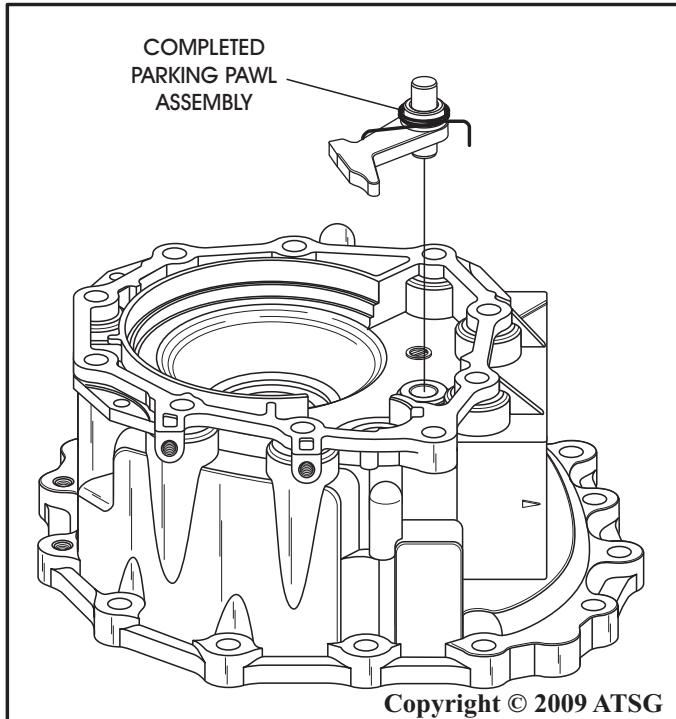

Figure 152
7. Install the pre-assembled parking pawl, spring and pivot pin into the 4WD adapter housing, as shown in Figure 152, and lock return spring behind the case tab.